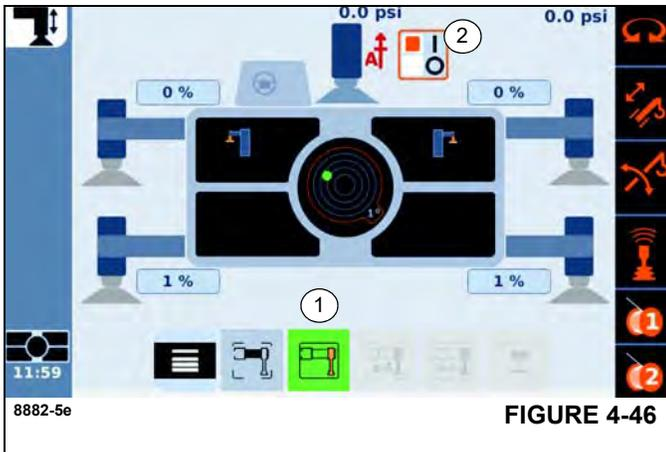
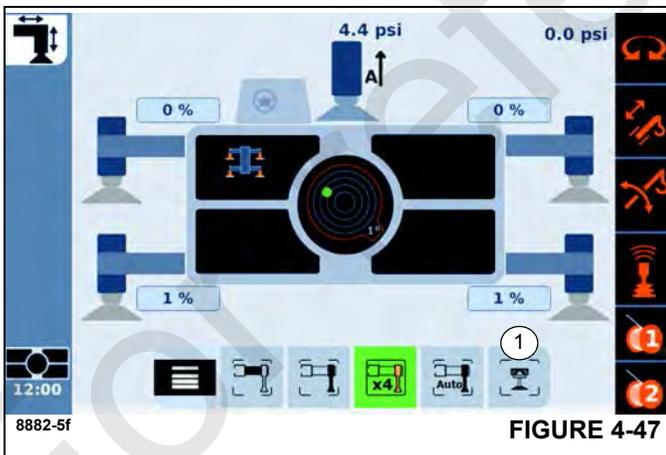

FIGURE 4-46
FIGURE 4-47
Stabilizer (CFS) to the ON position (2), (Figure 4-46). For additional information on the Outrigger Menu, refer to *Outrigger Keypad Power Indicator Light*, page 3-20.
4. The Cribbing Mode Enable Switch (2), (Figure 4-46) will now appear next to the Center Front Stabilizer (CFS) at the top of the screen.
6. Press the Center Front Stabilizer (CFS) (1), (Figure 4-47) to extend the CFS into place. Place cribbing beneath the CFS.
- **Cribbing Mode Enable Switch:** Toggle the Cribbing Mode Enable Switch (2), (Figure 4-46) to the ON position (Orange indicates ON position), then press the Cribbing Mode on the ODM (1), (Figure 4-47).
9. Retract the main front outrigger jacks off the ground by selecting the Retract push button and the Jack Selector (1), (Figure 4-46) push buttons together to raise the main front outrigger jacks off the ground.
11. Extend the main front outrigger jacks so that the Center Front Stabilizer (CFS) is unloaded and comes off the ground/cribbing by pressing the Extend push button and the Jack Selector push buttons together (Figure 4-46).
13. Extend the CFS until movement ceases by pressing the Extend push button and the Center Front Stabilizer push buttons together (Figure 4-47).